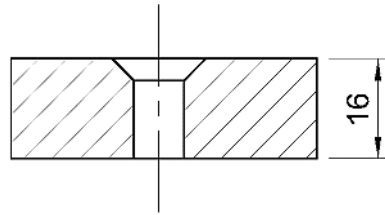

FIGURE 1
1.3 FIGURE 1 shows a sectional view through a counterbore hole. The hole diameter is $\text{Ø}8$ mm and the counter hole is $\text{Ø}15$ mm.